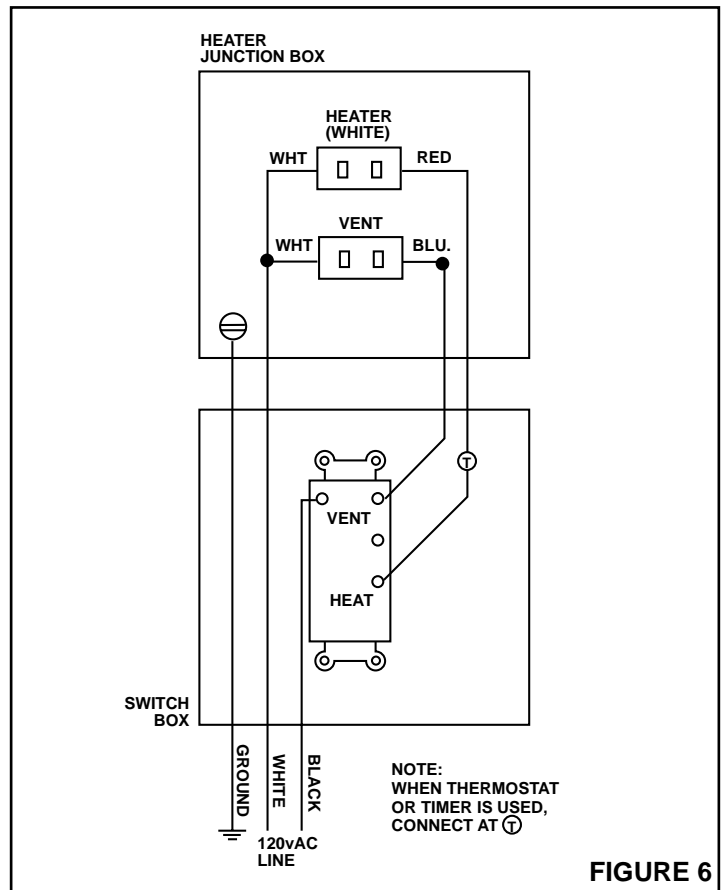

FIGURE 6
2. Refer to Figure 6. Run wiring and make wiring connections.
Refer to Figure 6.
6. From below, make wiring connections as shown in figure 6.